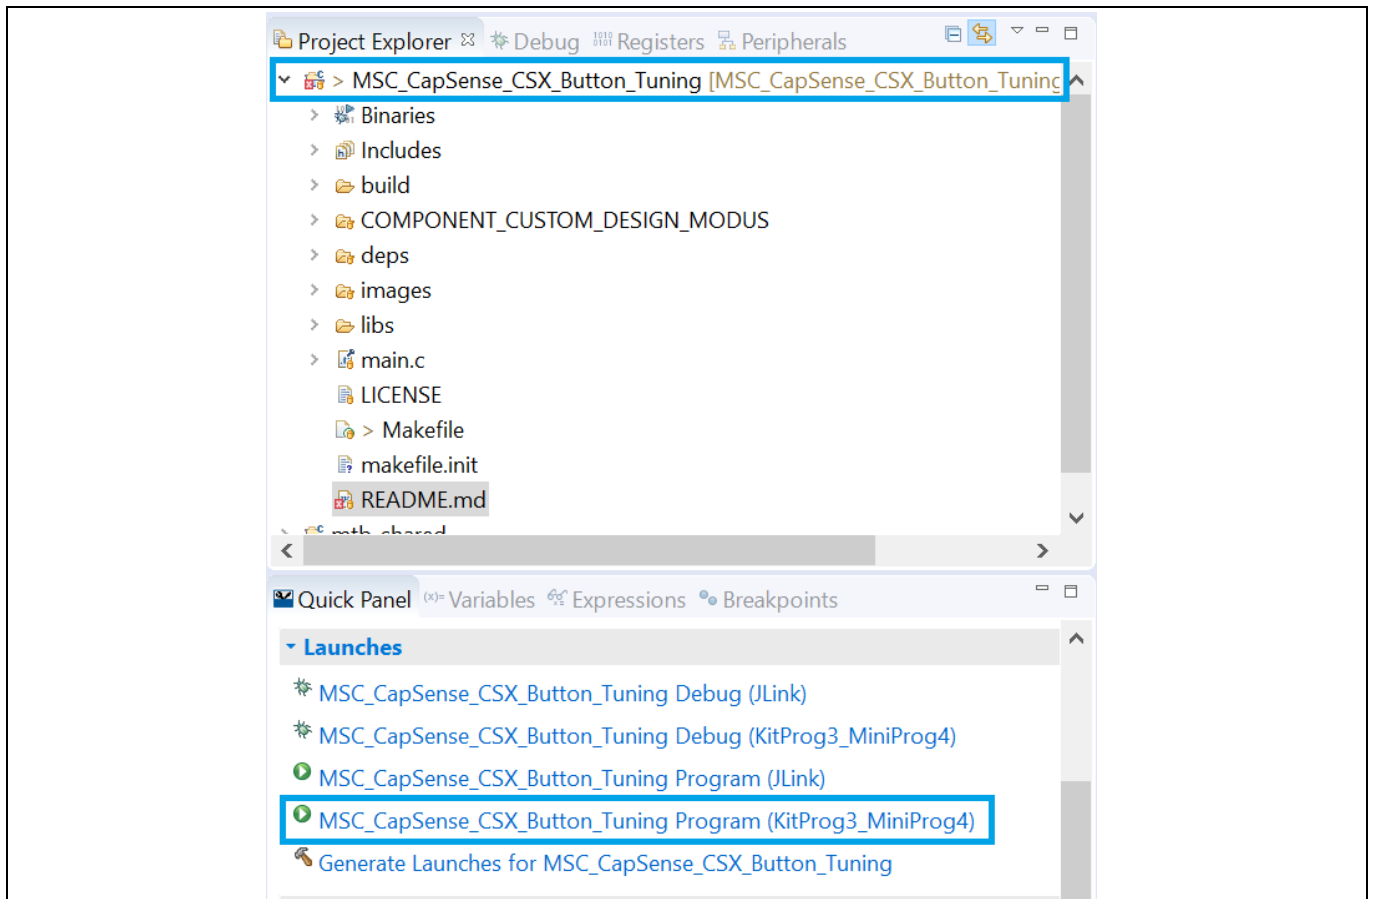

Figure 11 Build and program the code example
3. To build and program a PSoC™ 4100S Max MCU application, in the Project Explorer, select <App_Name> project. In the Quick Panel, scroll to the Launches section and click the <App_Name> Program (KitProg3_MiniProg4) configuration as shown in **Figure 11**.